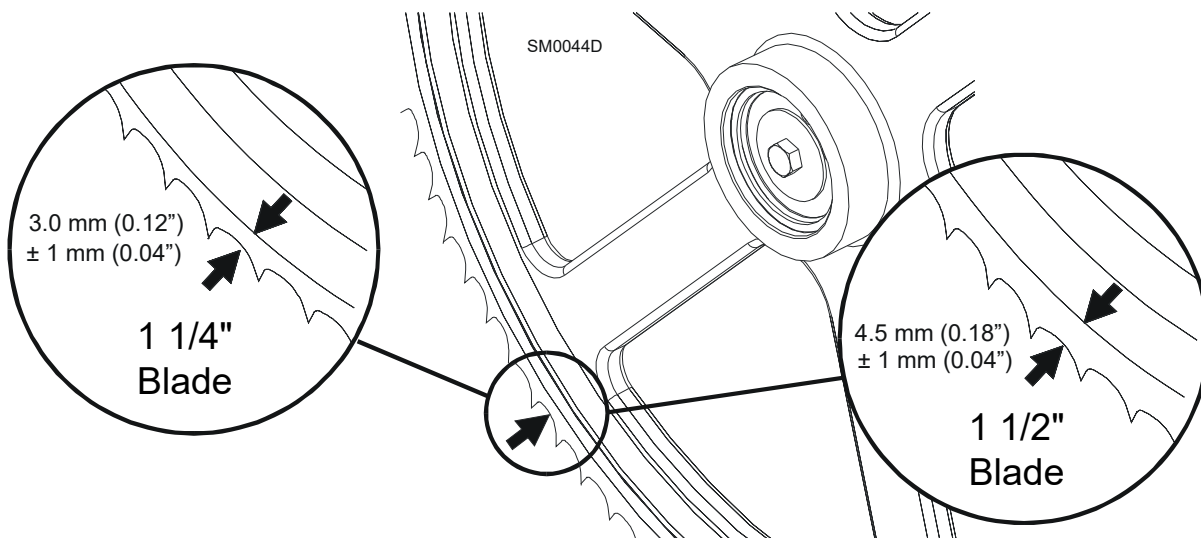

FIG. 5-2
**See Figure 5-2.** The blade wheels should be adjusted so that the gullet of 1 1/4" blades ride 3.0 mm (0.12") out from the front edge of the wheels ( $\pm 1.0$  mm [0.04"]). The gullet of 1 1/2" blades should ride 4.5 mm (0.18") from the front edge of the wheels ( $\pm 1$  mm [0.04"]). Do not let the teeth ride on the wheels.